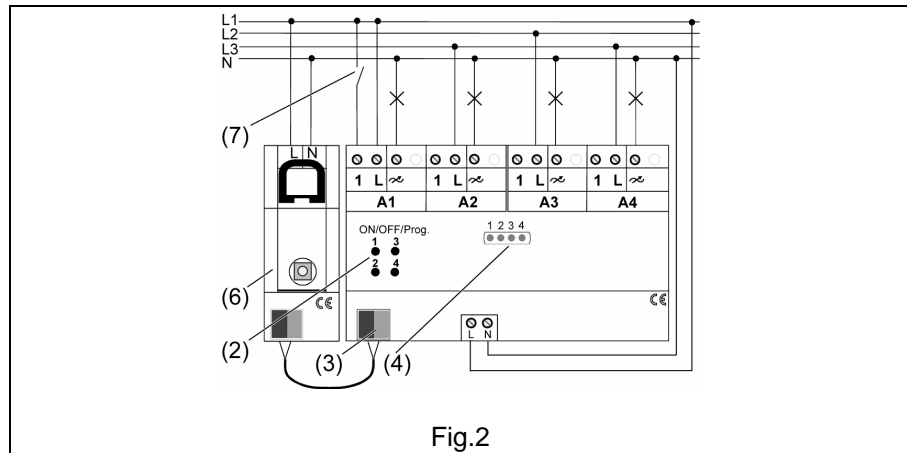

Fig.2
- Connect the device as shown in the wiring example (Fig. 2).
- ① When the load capacity of an output is exhausted, the power rating of the device can be increased with power boosters. The boosters must be selected to match the dimmers and the load. For more information see the instructions of the respective power booster